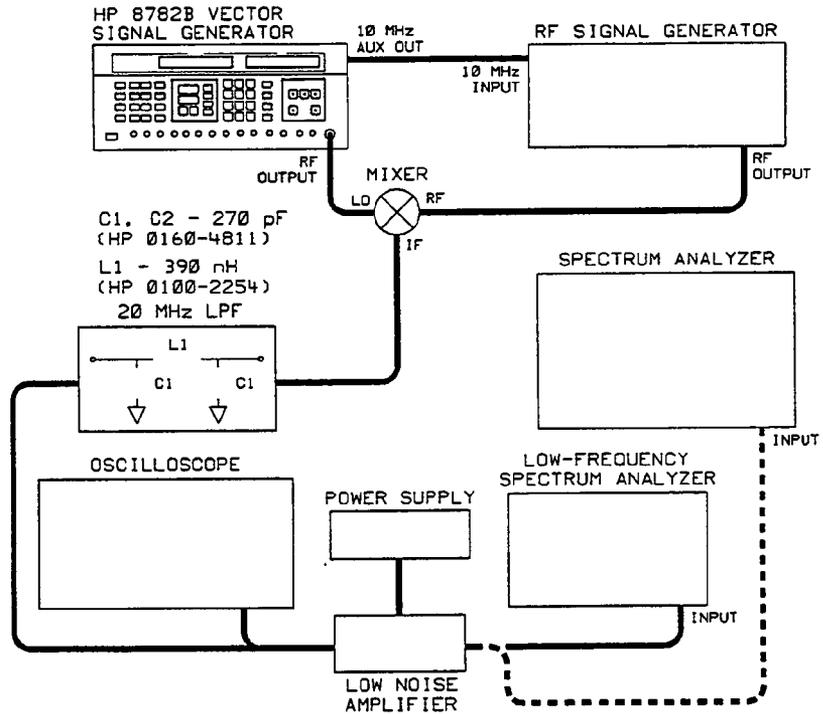

Figure 5-7. Residual SSB Phase Noise Test Setup
20 MHz Low Pass Filter .....	See Test Setup Figure 5-7.
1. Connect the equipment as shown in Figure 5-7.